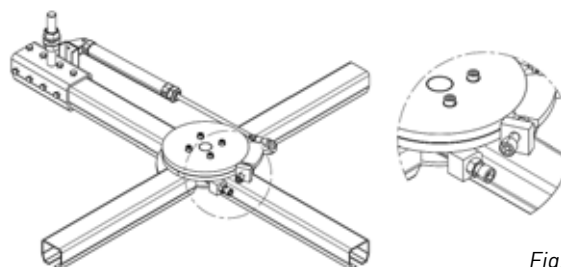

Fig. 66
- Annually, regrease the locking pin of the turn table (fig. 66)